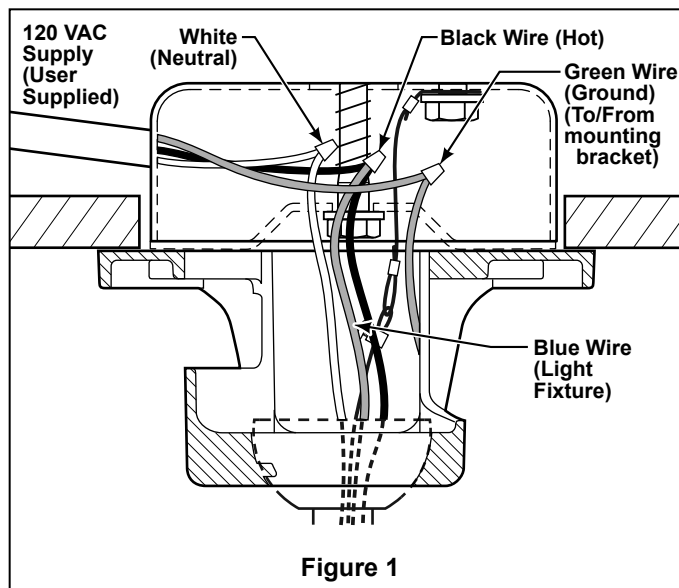

Figure 1
3. Securely connect the white wire from the fan motor to the white supply (neutral) wire using wire connector supplied (Figure 1).
4. Securely connect the black fan motor wire and blue wire to the black supply wire using wire connector supplied (Figure 1).
Installing Wall Control (Figures 1 & 2):
1. With electrical power still disconnected, remove the existing wall plate and switch. Make wiring connections with wire nuts as shown in Figure 1.